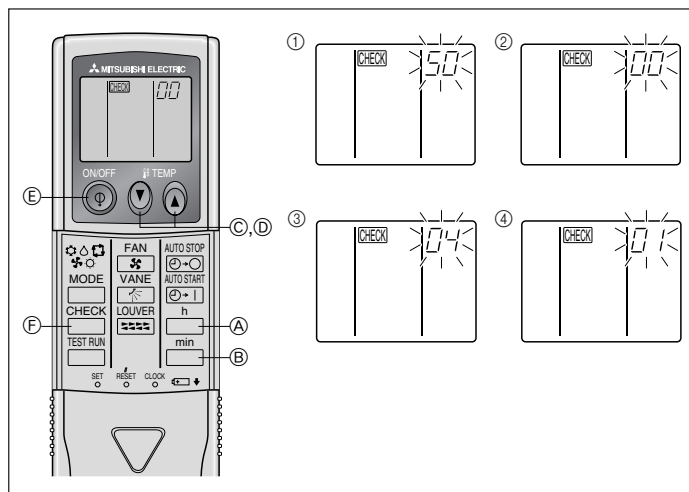

Fig. 7-9
⑧ Press the MODE button (E) and mode and the setting number (I) and (II) will change to being on constantly and the contents of the setting can be confirmed.
⑨ Press the FILTER (A) and TEST RUN (B) buttons simultaneously for at least two seconds. The function selection screen will disappear momentarily and the air conditioner OFF display will appear.
7.3.2. For wireless remote controller (Fig. 7-9)